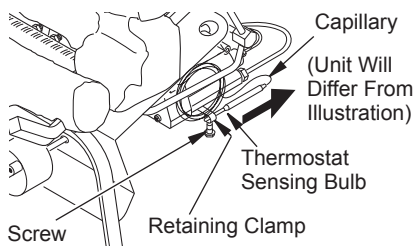

Figure 39 - Removing Thermostat Sensing Bulb
2. With 5/16" hex driver or socket, loosen the thermostat screw. Carefully slide the thermostat sensing bulb out of the retaining clamp (see Figure 39).